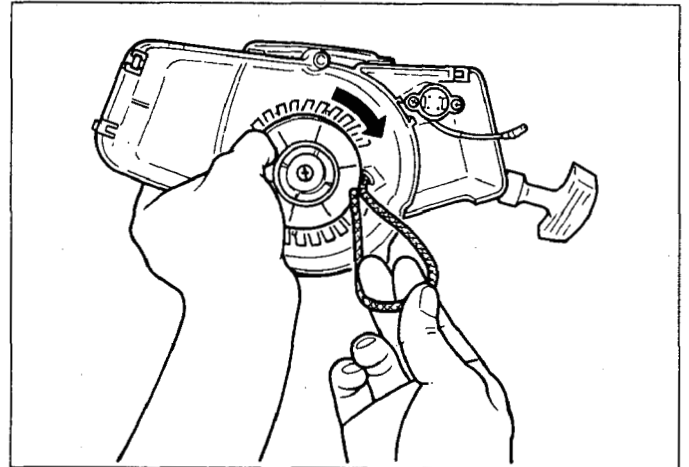

Fig. 22
- (3) Hold reel with thumb and pull starter rope inside case. (See Fig. 22.)
- (4) Rewind rope clockwise until rotation stops by holding starter rope using the notch on the reel.
- (1) Pull starting knob 2 or 3 times, and pull out starter rope a little.
- (2) Pull starting knob, and pull out starter rope all the way long.
- a) If starter rope remains left in reel or starter rope does not return at all, immoderate strain is imposed on the spring. So rewind starter rope 1 or 2 times as per instruction in Fig. 22.